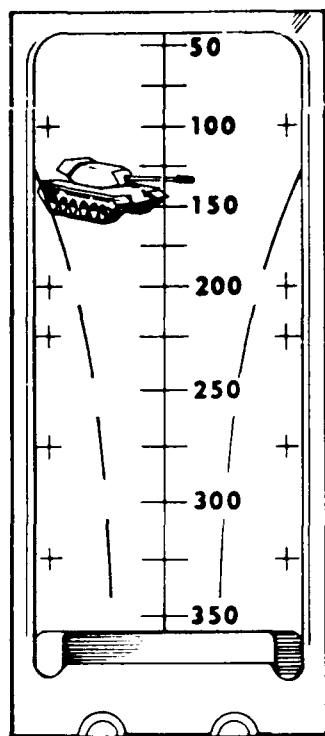
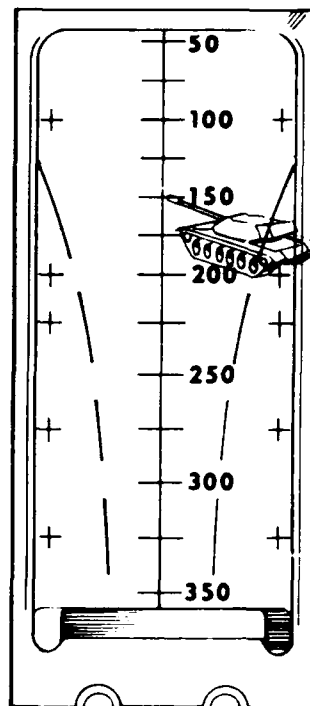

Figure 5-70.—Target moving toward gunner, 150 meters at an angle of 45° or less.
Figure 5-71.—Target moving away, 175 meters at an angle of 45°.
4. *Targets moving at an angle toward or away from the gunner.* When the target is moving toward the gunner at an angle where more of the front of the target is visible than the side, the gunner should estimate the range to the target and place the range on the forward edge of the target (fig. 5-70). If the target is moving at an angle where more of the side is visible than the front, the gunner should estimate the range, estimate the speed it appears to be moving, and apply one-half lead to the forward edge of the target (fig. 5-71).